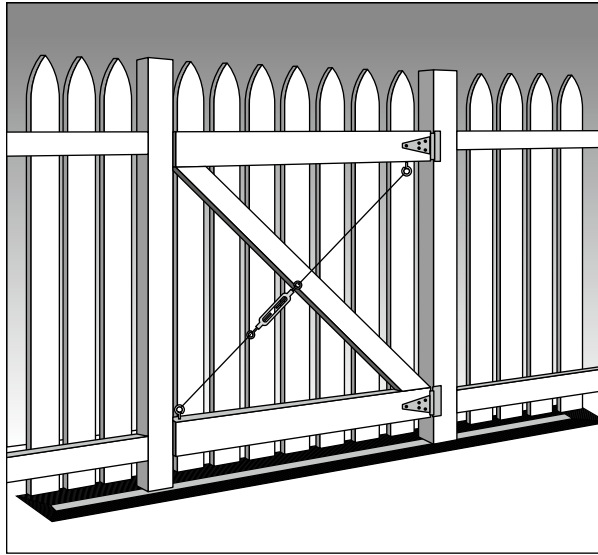

FIGURE 18-2:
3. **Attach cables to each corner bracket and then to the two ends of a turnbuckle. (See Figure 18-2.)**